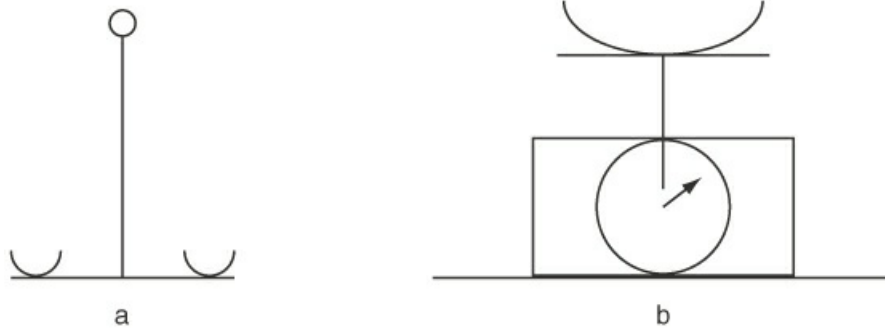

Figure P2.1.2
****2.1.2** Two scales are shown in Figure P2.1.2, a balance (a) and a spring scale (b). In the balance, calibrated weights are placed in one pan to balance the object to be weighed in the other pan. In the spring scale, the object to be weighed is placed on the pan and a spring is compressed that moves a dial on a scale in kilograms. State for each device whether it directly measures mass or weight. Underline your answer. State in *one* sentence for each the reason for your answer.